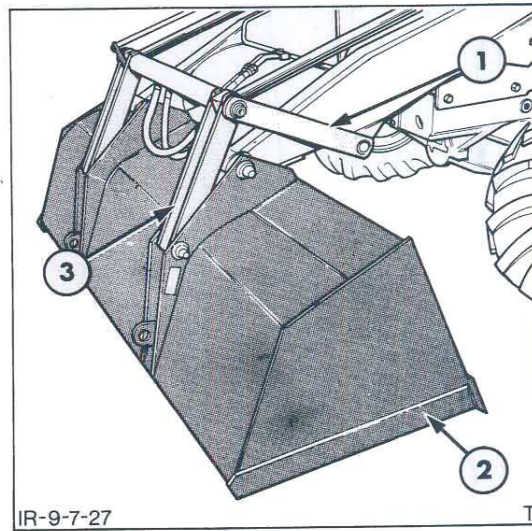

Figure 27
- (ii) Fully roll out the bucket to the bucket removal position, Figure 27, and position a suitable support between the cylinder barrel and upper surface of the lift arm.